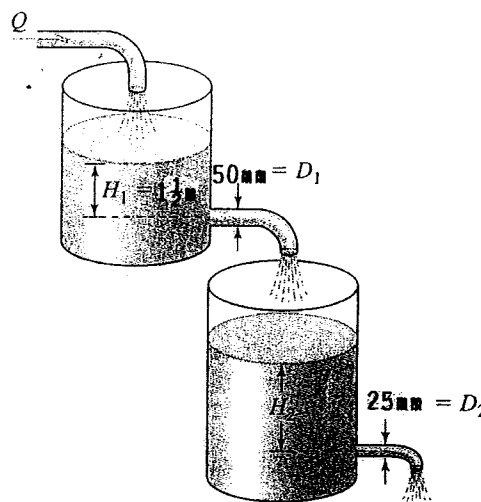

Figure 5
3. (a) The water tank system shown in Figure 5 is in steady state; find the water depth in the second tank H_2 . (Note $H_1 = 1.5 \text{ m}$, $D_1 = 50 \text{ mm}$ and $D_2 = 25 \text{ mm}$) (5 marks)